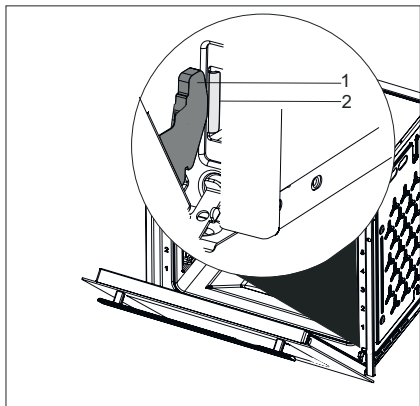

Fig. 31
7. ➔ Remove the hinges from the hinge housing by holding the door with both hands to remove the oven door (Fig. 31).